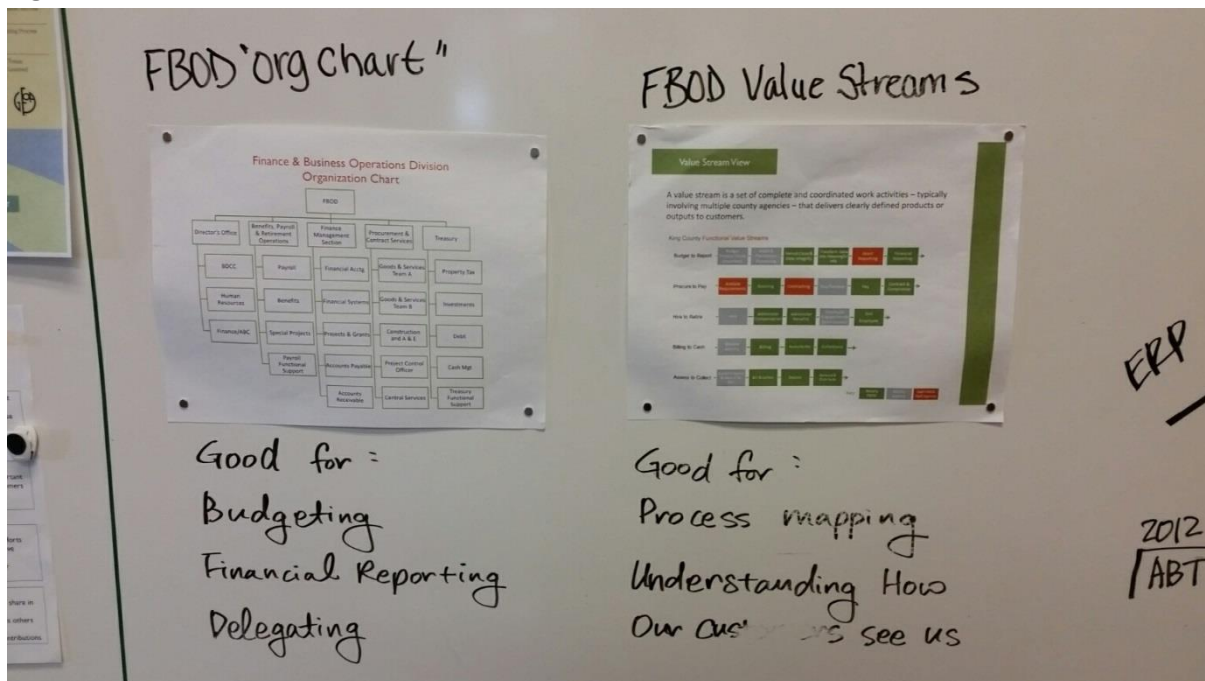

Figure 13
- Shows how the org chart aligns with value streams (Figure 13)